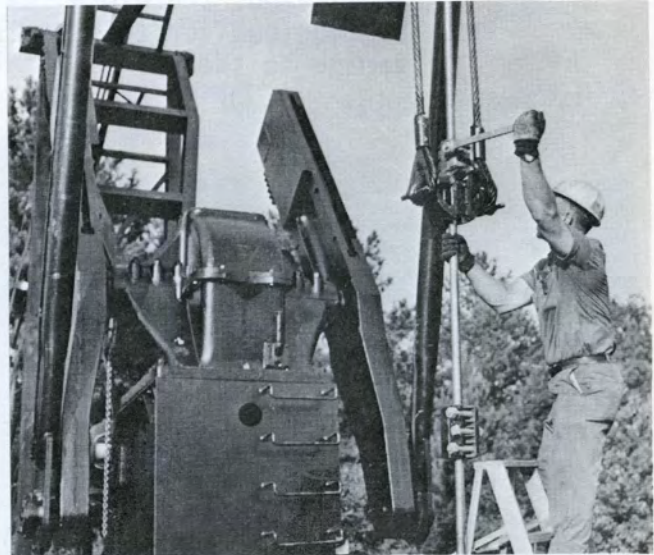

Figure 37
33. Figure 37 - Connect Carrier Bar to Polished Rod